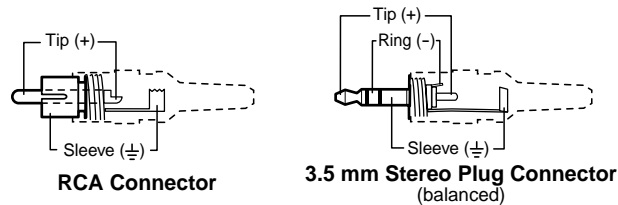

Figure 3. Input 6 Through input 8 Audio Connector Wiring
- ⑨ **Input 6 through Input 8 connectors** — Connect unbalanced stereo audio sources (such as computers) to these 3.5 mm mini stereo jacks for unbalanced audio input (see figure 3 to wire the audio jack).